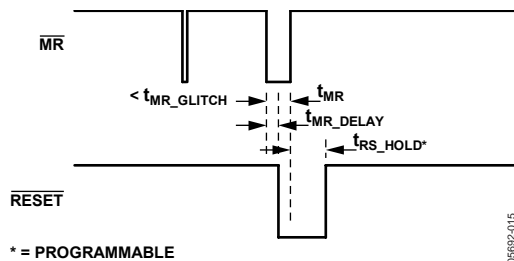

Figure 15. Manual Reset ($\overline{\text{MR}}$) Timing Diagrams
Manual reset ($\overline{\text{MR}}$) is active low and has an internal pull-up resistor to $V_{3\text{MON}}$. $\overline{\text{MR}}$ can be driven from a CMOS logic signal. The $\overline{\text{MR}}$ and $\overline{\text{RESET}}$ timing diagrams are shown in Figure 15. $\overline{\text{MR}}$ has the highest priority in triggering the $\overline{\text{RESET}}$ over any other monitoring inputs.
- When MR is asserted (see Figure 15)